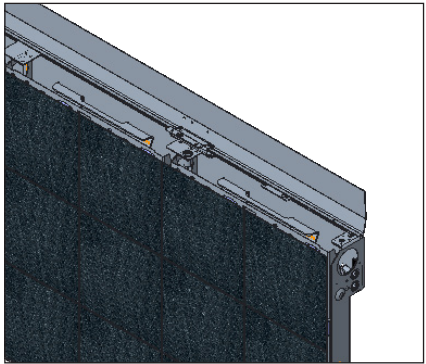

Figure 11: Open Beverage Shroud
- 2. Rotate the beverage shroud upward to open the shroud. Refer to **Figure 11**.